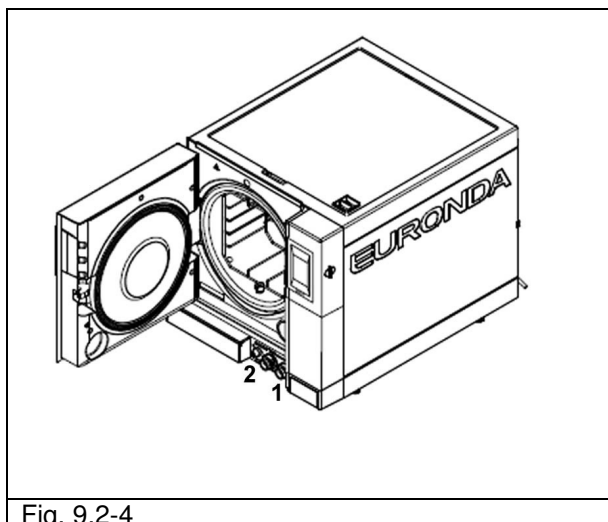

Fig. 9.2-4
1. Empty the clean water tank: fit the end of the tube with the connector into the connector at the bottom of the front panel (1 of Fig. 9.2-4), and the other end into an empty container.
2. Empty the internal tank for collecting used water: fit the end of the transparent tube into the connector at the bottom of the front of the unit (2 of Fig. 9.2-4) and the other end into an empty container.